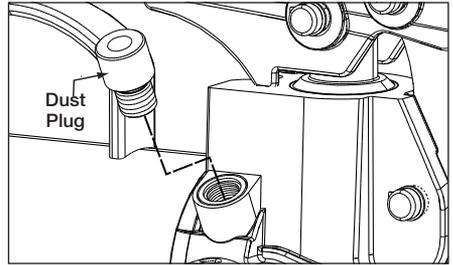

Figure 13, Relief Valve (P-77, P-80, P-801 and P-84)
- On models, P-77, P-80, P-801 and P-84, the relief valve is located on the side of the pump head. See Figure 13.